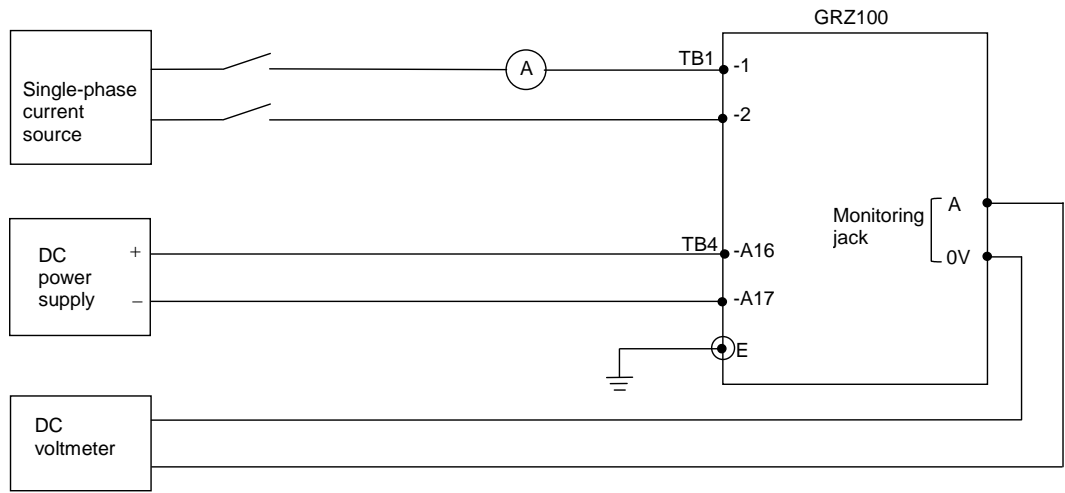

Figure 6.5.1.8 Testing Current Change Detection Element
- Apply a single-phase rated voltage to terminal 17 and 18 as shown with broken lines in Figure 6.5.1.7 and set the scheme switch [3PH-VT] to "Line". The test can be performed taking the same step as testing SYN1.
The test circuit is shown in Figure 6.5.1.8.